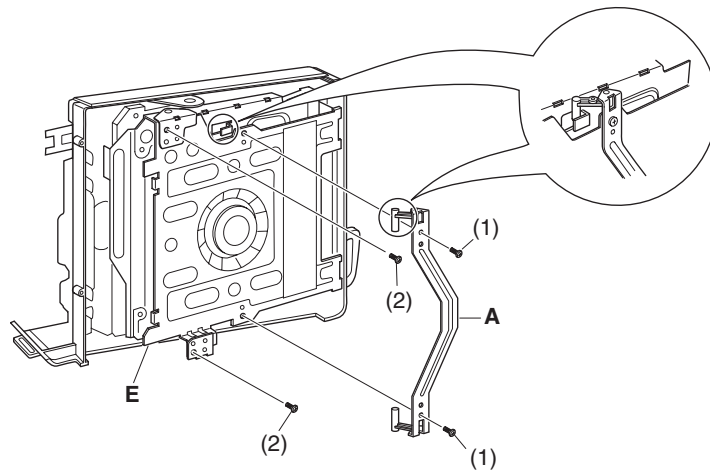

Fig. 4-5a
## 4.5 Link bracket, Drive block, Lock unit, and R case (Fig. 4-5a, 4-5b)
- (1) Remove the two screws holding the link bracket. (Fig. 4-5a)